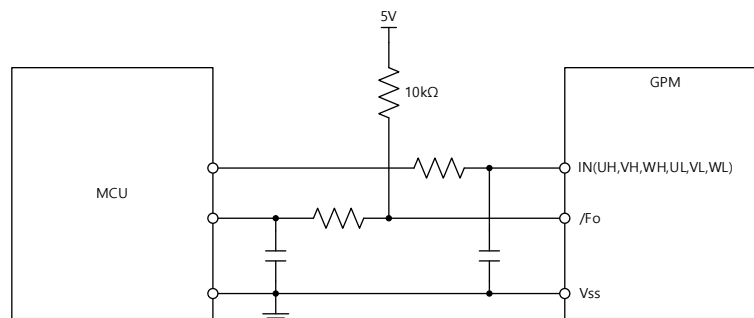

Figure 7. Recommended MCU I/O Interface Circuit
9. Fault output is an open-drain type. This signal line should be pulled up to the positive side of the MCU or control power supply with a resistor that makes I_{FO} up to 1 mA. Please refer to Figure 7.
10. Input signal is active-HIGH type. There is a 5 k Ω resistor inside the IC to pull-down each input signal line to GND. RC coupling circuits should be adopted for the prevention of input signal oscillation. RC time constant should be selected in the range 50–150 ns (recommended R = 100 Ω , C = 1 nF). Please refer to Figure 7.